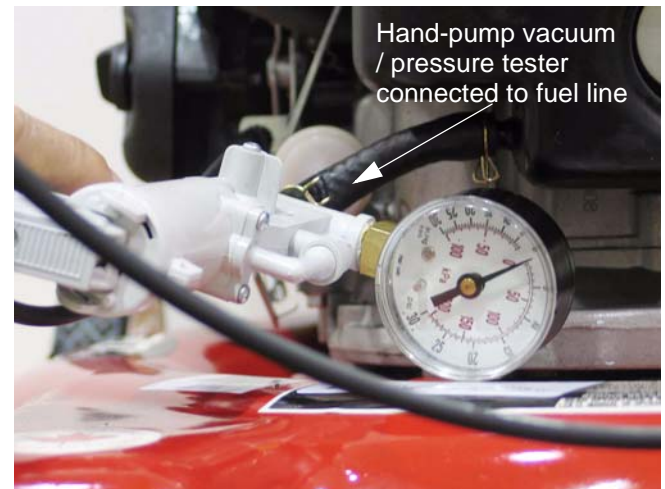

Figure 8.4
- 8.4. To test the cap vent, a hand-pumped vacuum / pressure tester may be connected to the fuel barb (after draining). See Figure 8.4.